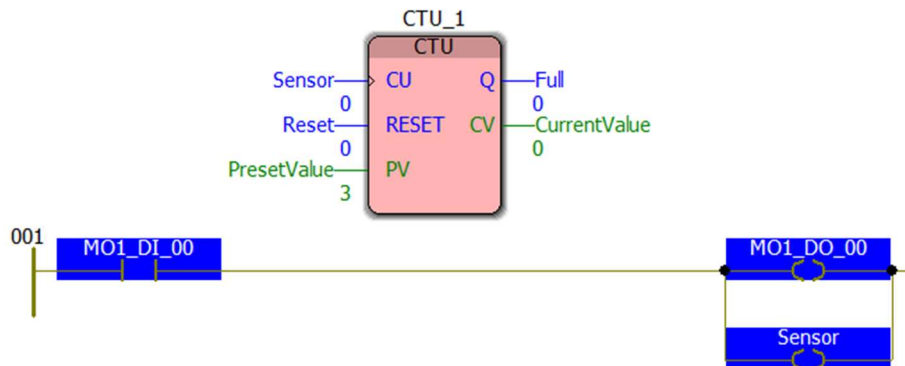

Figure 30: Program in Debug Mode and Button Switched Off
- Once completed, ensure that all the switches are off (pointed down). Then Download Changes and switch to Debug Mode and it should look like Figure 30.